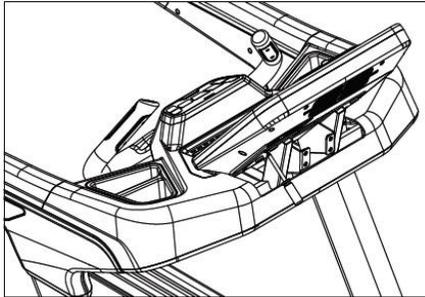

Figure 4.1.2
4.1.2 As shown in Figure 4.1.2, remove the electronic control cable connector, use the cross screwdriver to remove the electronic watch 4 umbrella head screws, you can remove the electronic form.